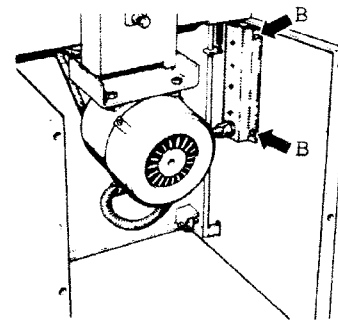

Fig.3.
Remove terminal cover, two screws (B), see Fig.3. Pass supply leads through grommet in cabinet base.